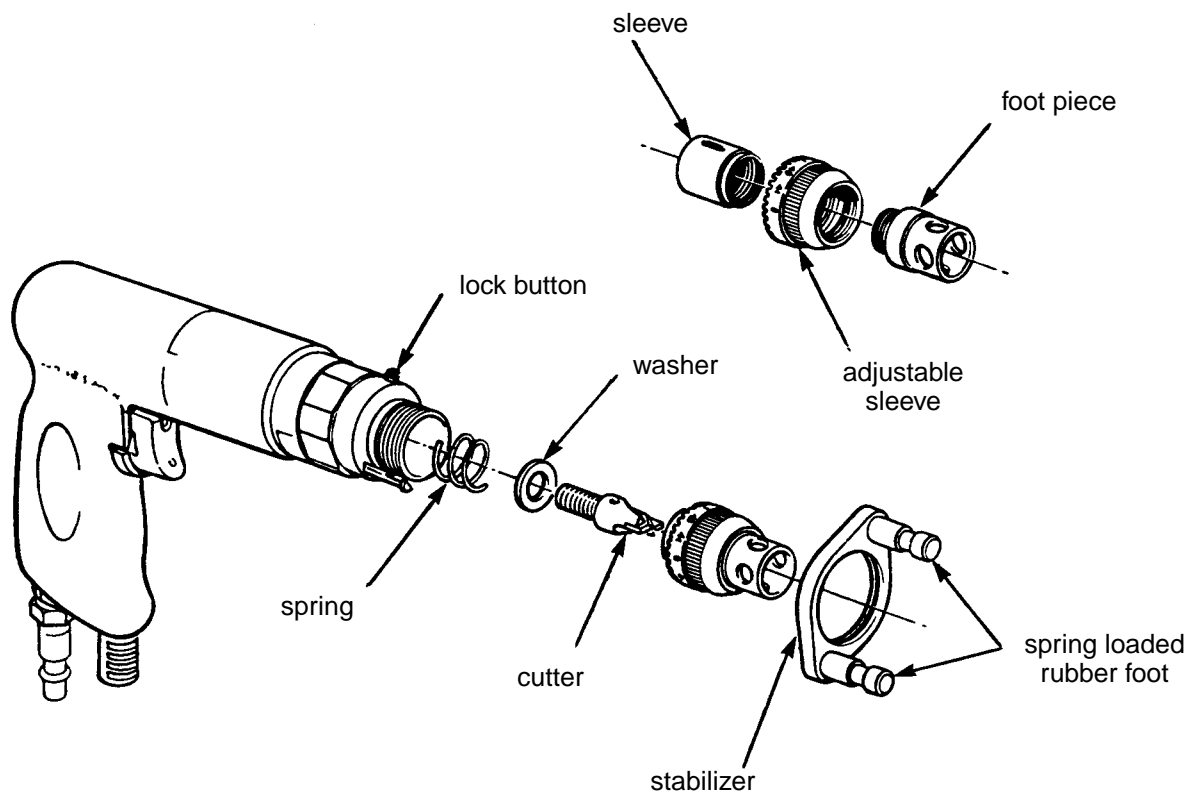

Figure 2 - Installation of Cutter and Foot Piece Assembly
- Step 2. Lock the rotating spindle of the rivet shaver by pressing the lock button and thread the cutter onto the spindle shaft (see Figure 2).
- Step 4. Insert the spring and the washer, assemble the adjustable sleeve and foot piece and thread it onto the body of the rivet shaver while holding the lock pin down (see Figure 2).